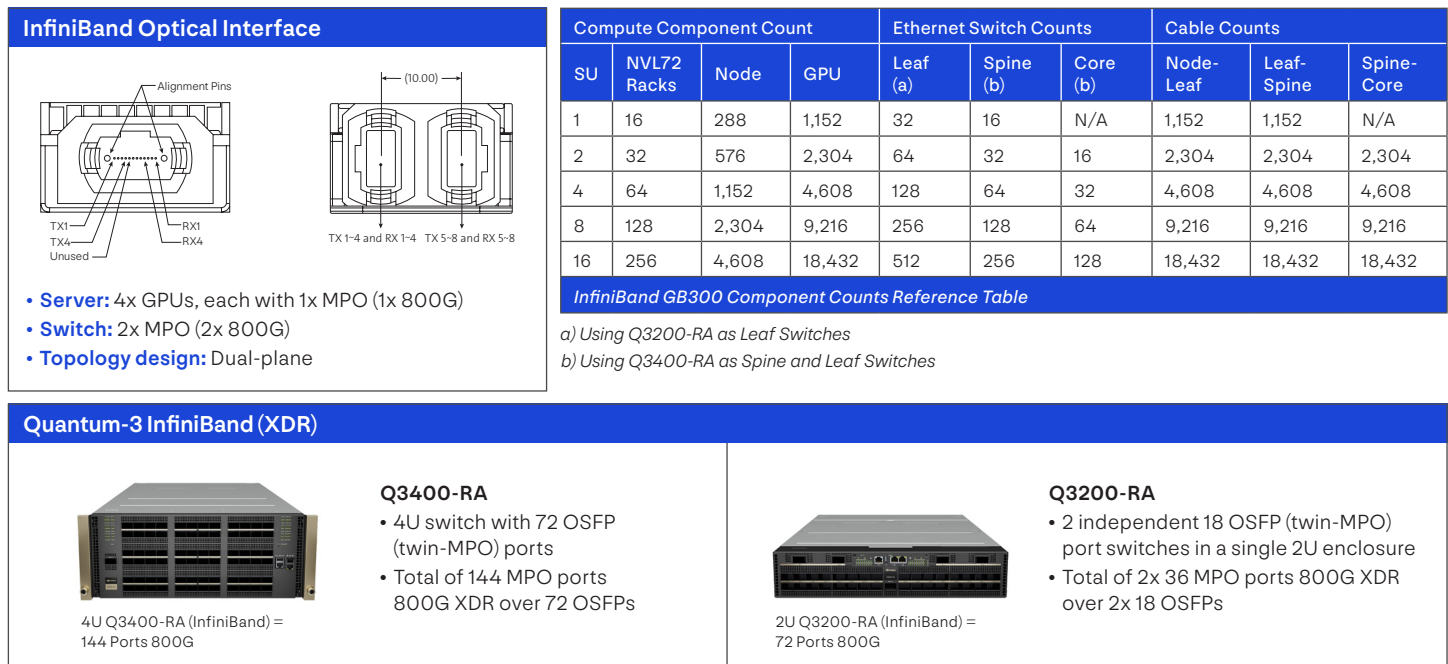

Figure 37. GB300 InfiniBand Cluster sizes and component counts in a dual-plane design.
- As in GB200 InfiniBand, each Scalable Unit (SU) consists of **16 GB300 NVL72 racks**, with each rack containing 72 GPUs (see Figure 37).